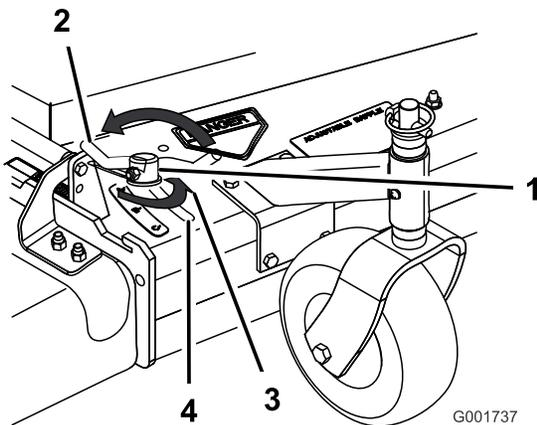

Figure 13
3. To adjust the cam lock, swing the lever up to loosen the cam lock (Figure 13).
5. Swing the lever back over to tighten the baffle and cam lock (Figure 13).